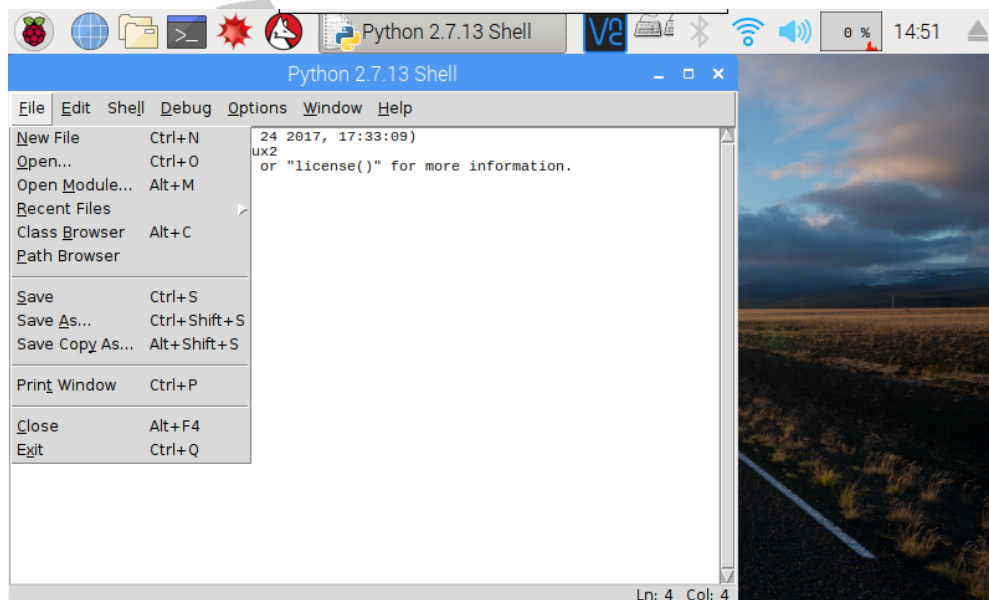

Figure 5-4 Create a new python file
- (4) After launching Python Shell, select [File] / [New File] from the menu bar, as shown in Figure 5-4.